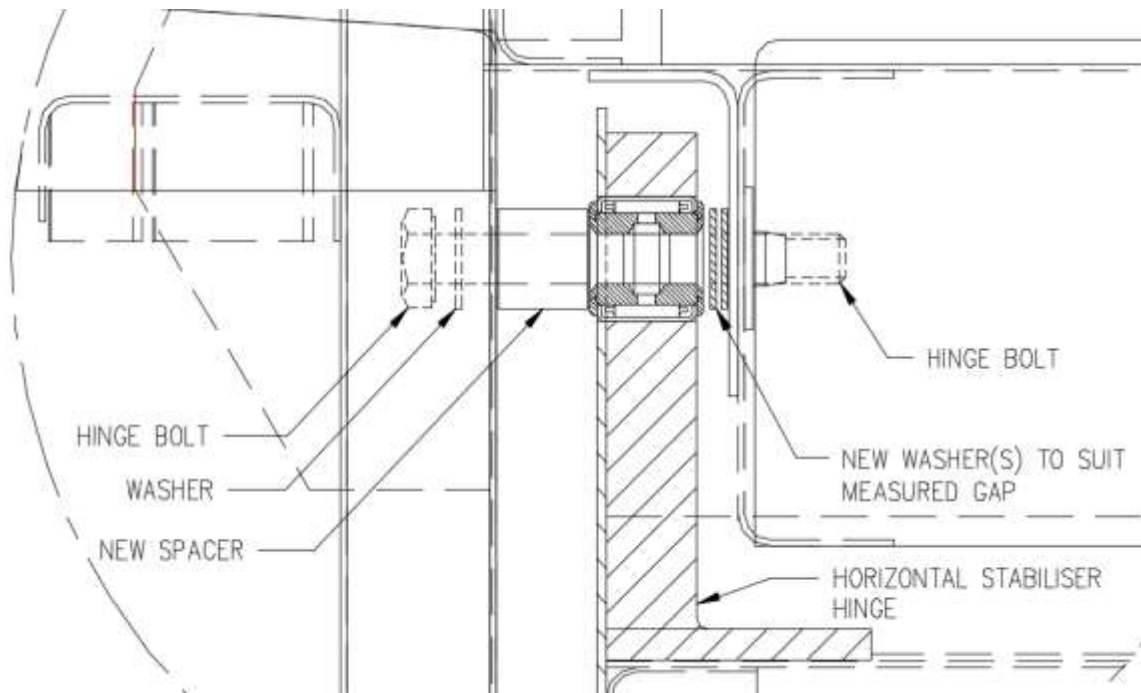

Figure 9 – Installation of Outboard Hinge
8.10. Install serviceable hinge bolt, nut and washers through Outboard Hinge using the number of washers determined in Step 8.8 and spacer manufactured under Step 8.9 as shown in Figure 9.